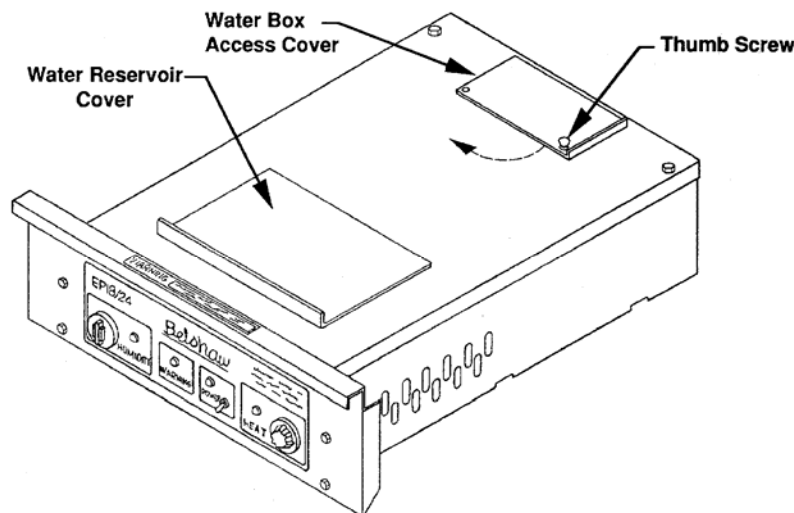

FIGURE 3
1. Lift off water reservoir cover and fill water reservoir (see Figure 3). If necessary, open lower door(s) and remove screen(s) or
- C. Remove water box access cover thumb screw and rotate access cover to open position. (see Figure 3)